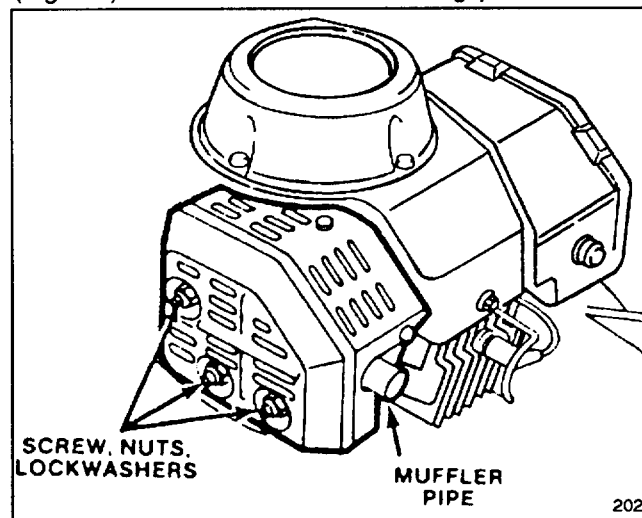

Figure 19
1. Use hard wood scraper and remove carbon from end of muffler pipe (Fig. 19).
2. Remove screw, two nuts, and lockwashers (Fig. 19). Slide muffler off mounting pins.